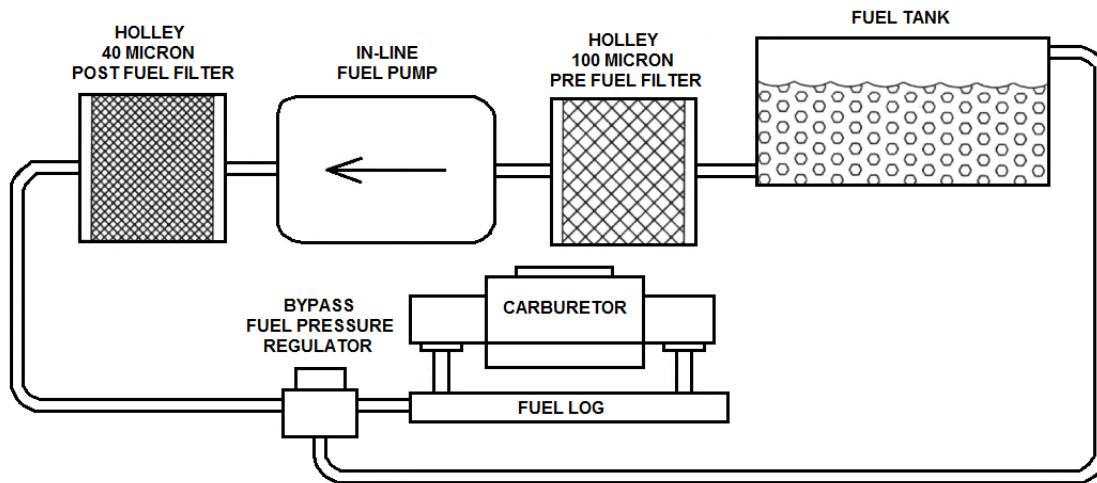
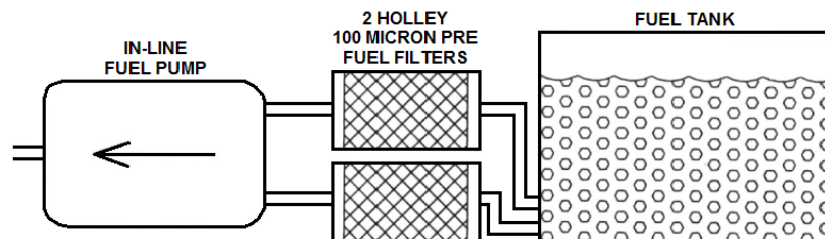

Figure 4a (Carb applications only)
Figure 4c
5. Connect the fuel supply line from the tank to the pre-filter and then to the inlet port of the pump. Connect the main fuel feed line to the outlet port of the pump, then to the post filter. See **Figures 4a and 4b**. If using a pump with dual inlets, both inlets MUST be plumbed or pump failure will occur! See **Figure 4c**.
(If using a pump with dual inlets, connect the fuel lines as shown and plumb the rest according to Figures 4a, 4b, or 4c.)